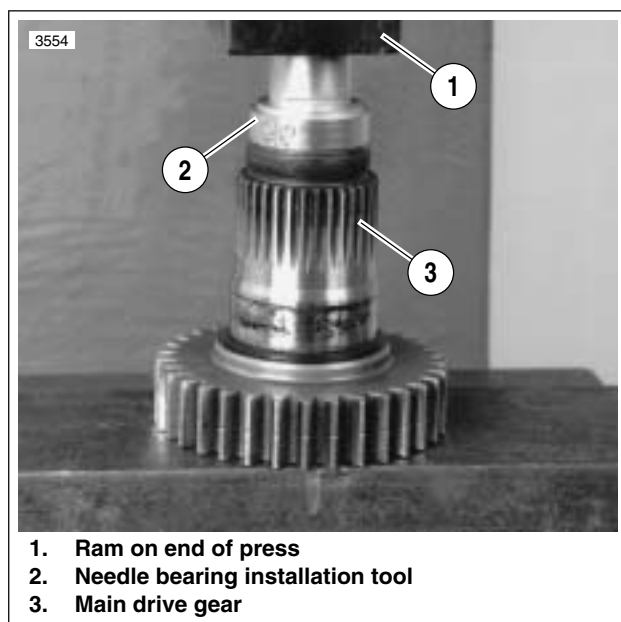

Figure 6-71. Needle Bearing Installation Tool
1. See Figure 6-71. Use INNER/OUTER MAIN DRIVE GEAR NEEDLE BEARING INSTALLATION TOOL (Part No. HD-37842-A) for assembly. Select which end of tool to use.